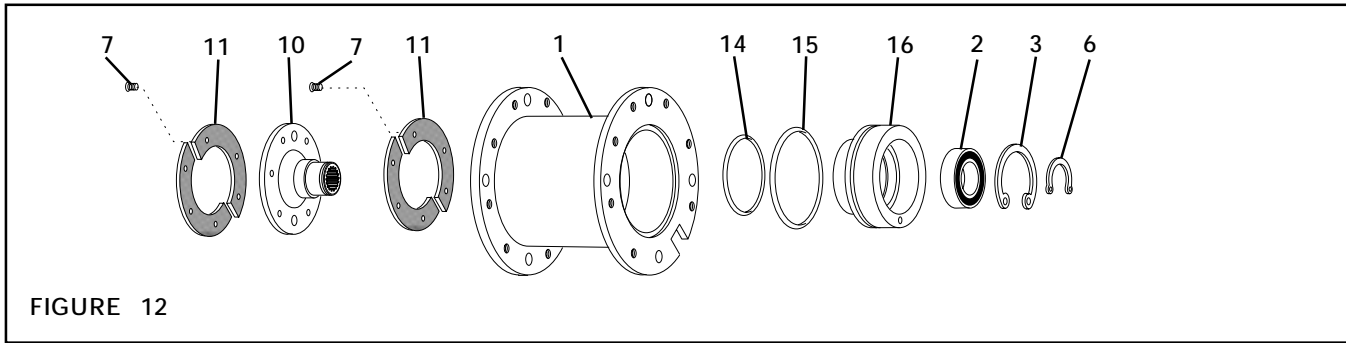

FIGURE 12
1. Remove the Retaining Ring (Item 6) (See Figures 12 and 13).
2. Supporting the inner flange of the Housing (Item 1), press the Splined Disc (Item 10) out of the Piston (Item 16) and Bearing (Item 2) (See Figures 12 and 13).
3. Slide the Piston (Item 16) and O-ring Seals (Items 14 and 15) out of the Housing (Item 1) (See Figures 12 and 13).
4. Remove the Retaining Ring (Item 3) from the Piston (Item 16) (See Figures 12 and 13).
5. Supporting the Piston (Item 16), press the Bearing (Item 2) out of the Piston (See Figures 12 and 13).
6. Supporting the Piston (Item 16) and pressing on the outer race of the new Bearing (Item 2), press the new Bearing into the Piston (See Figures 12 and 13).
7. Reinstall the Retaining Ring (Item 3) (See Figures 12 and 13).
8. Clean the O-ring contact surfaces of both the Piston (Item 16) and Housing (Item 1) with fresh safety solvent (See Figures 12 and 13).
10. Coat the new O-ring Seals (Item 14 and 15) with fresh O-ring lubricant (See Figures 12 and 13).
11. Install O-ring Seal (Item 14) into the Housing (Item 1) and O-ring Seal (Item 15) onto the Piston (Item 16) (See Figures 12 and 13).
12. Slide the Piston (Item 16) with O-ring Seal (Item 15) back into the Housing (Item 1) and O-ring Seal (Item 14) (See Figures 12 and 13).
13. Remove the six Machine Screws (Item 7) securing the Split Friction Facings (Item 11) to the Housing (Item 1) (See Figures 12 and 13).
14. Remove the Split Friction Facing (Item 11) from the Housing (Item 1) (See Figures 12 and 13).
15. Using six new Machine Screws (Item 7), secure the new Friction Facing (Item 11) to the Housing (Item 1) (See Figures 12 and 13).
17. Remove the six Machine Screws (Item 7) securing the Split Friction Facings (Item 11) to the Splined Disc (Item 10) (See Figures 12 and 13).
18. Remove the Split Friction Facing (Item 11) from the Splined Disc (Item 10) (See Figures 12 and 13).
19. Using six new Machine Screws (Item 7), secure the new Friction Facing (Item 11) to the Splined Disc (Item 10) (See Figures 12 and 13).
21. Support the inner race of the Bearing (Item 2) and press the Splined Disc (Item 10) back into the Bearing (Item 2) and Housing (Item 1) (See Figures 12 and 13).
22. Reinstall the Retaining Ring (Item 6) (See Figures 12 and 13).